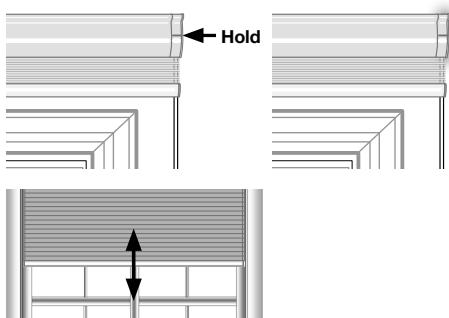

Fig. 4
- B. Press and hold the program button on the target shade headrail or motor end until the LED light flashes green (about 3 seconds), then release button. (Fig 4.) The LED on the secondary control will turn green and the shade will jog. Both the primary (group) and secondary (individual) controls will now operate the shade.